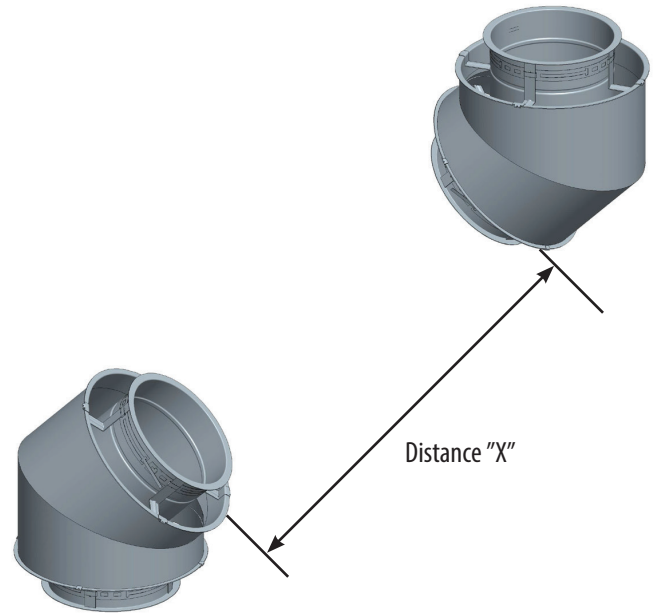

Figure 13 - Step 1 for Installation of Variable length
Step 1 - Measure the distance X required for the variable length. See Figure 13.